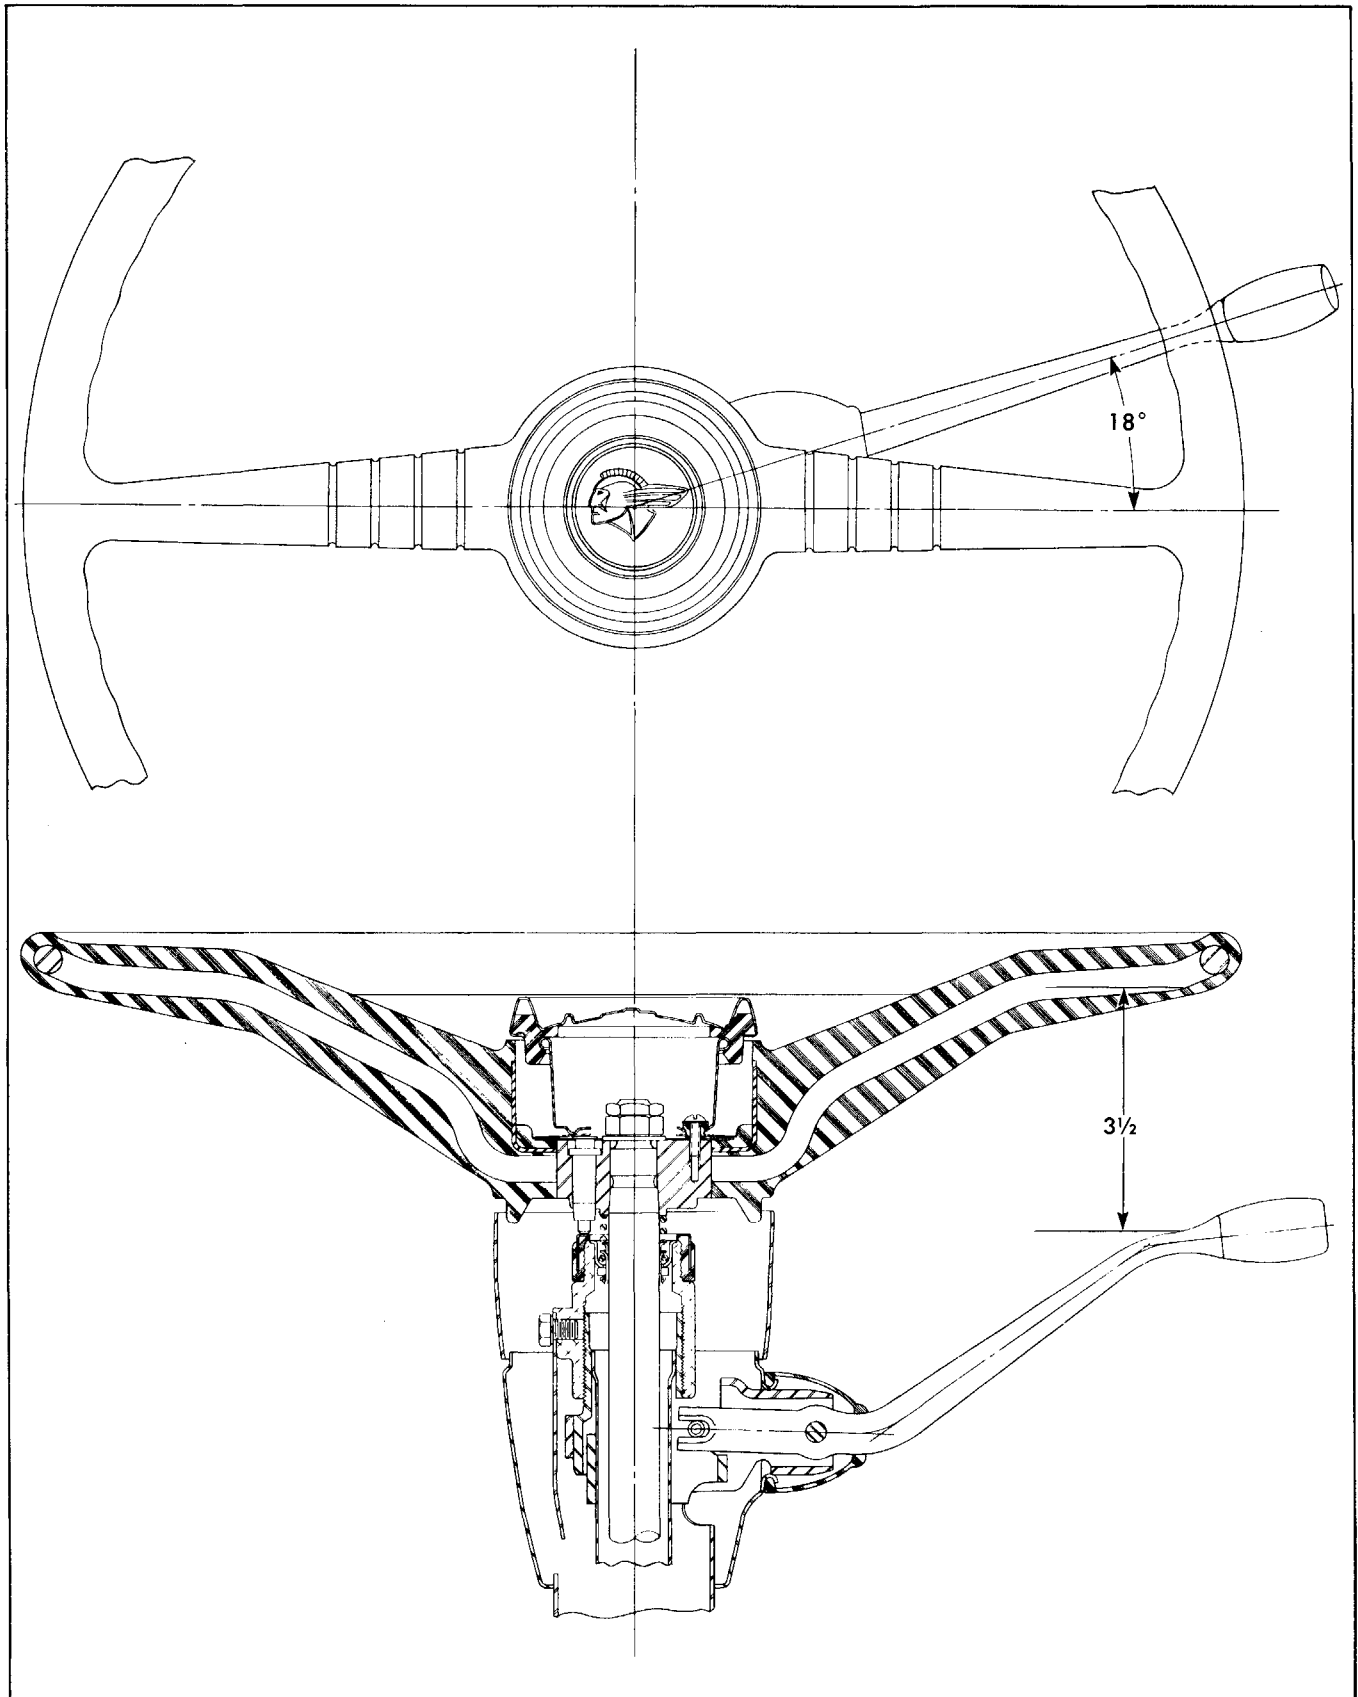

Fig. 7-6 Gearshift Lever Adjustment
1. When gearshift lever is in neutral position, clearance between lever and steering wheel should be approximately $3\frac{1}{2}$ " (Fig. 7-6). To adjust, hold transmission selector rod in its rearmost position, (normal position for 2nd and 3rd) and adjust selector rod trunnion for proper gearshift lever position. Lengthen selector rod to move lever closer to steering wheel.